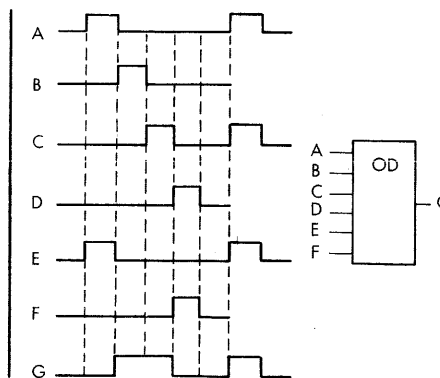

Figure 2-11. Odd Count Block
The output of odd count (OD) is at its indicated polarity only when an odd number (such as 1, 3, 5, and 7) of inputs are at their indicated polarity (Figure 2-11).